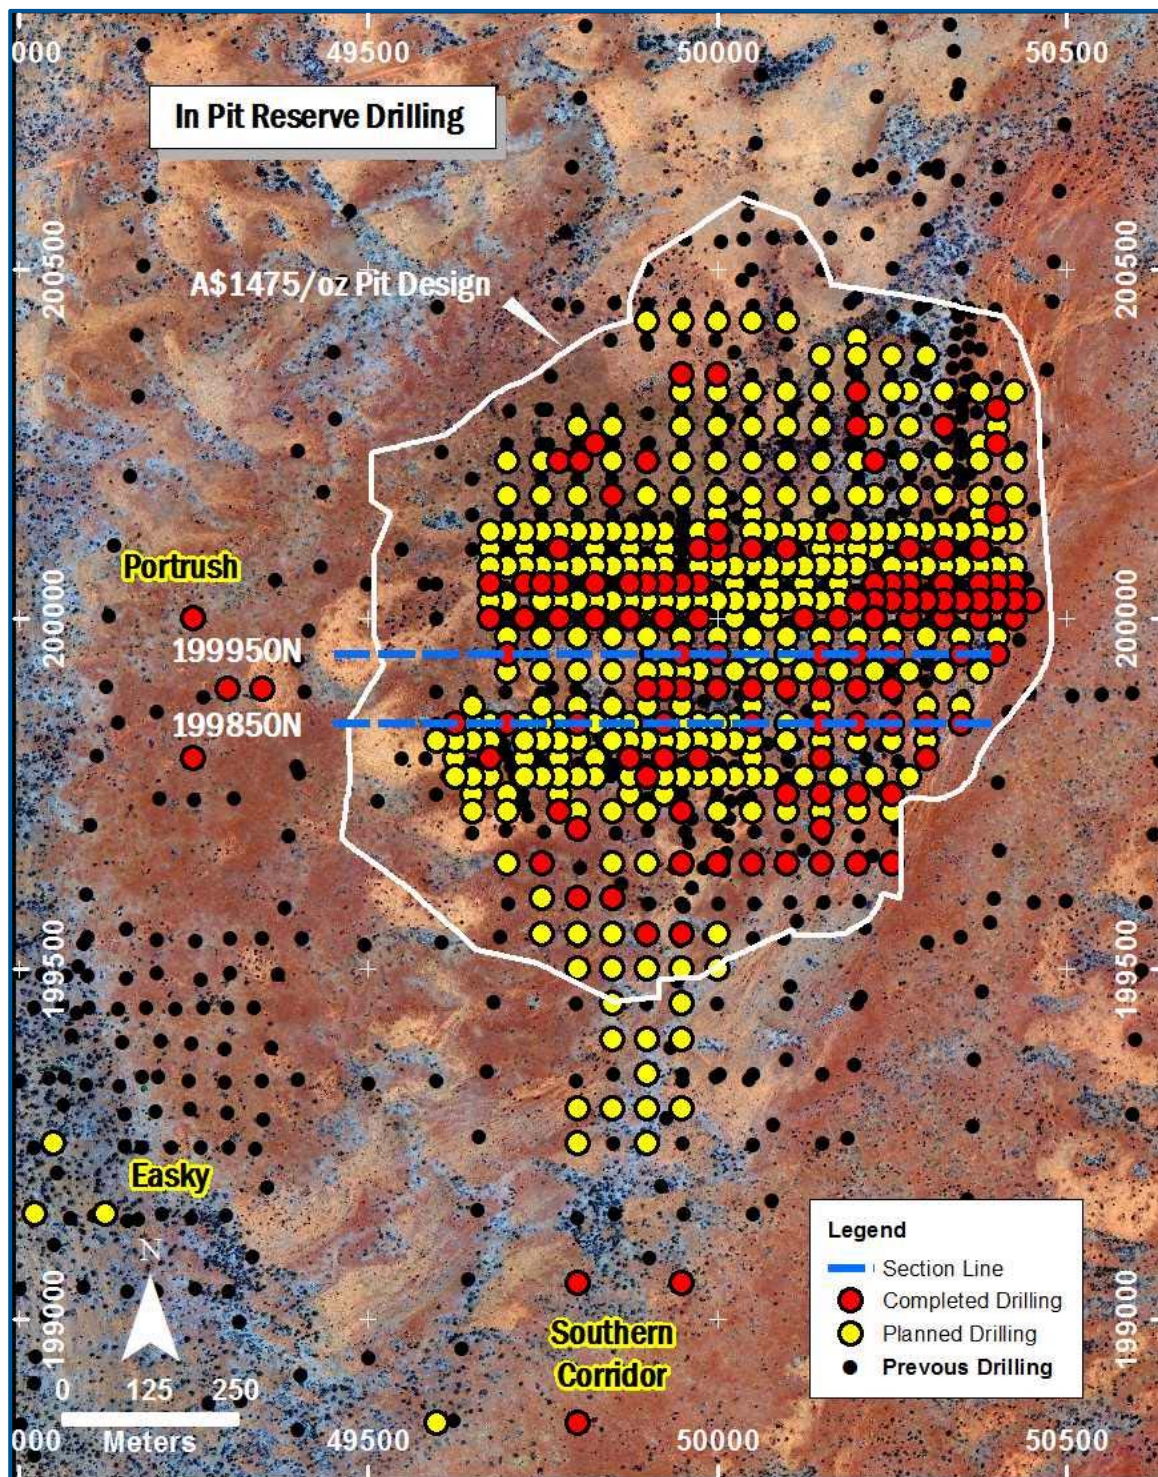

Figure 2: Plan Showing Current Drilling Status
- Visible sulphides, which are generally associated with the gold mineralisation at Karlawinda, have been observed from initial RC drilling at the new exploration targets Portrush and Southern Corridor (refer Figure 2). Assays are awaited.